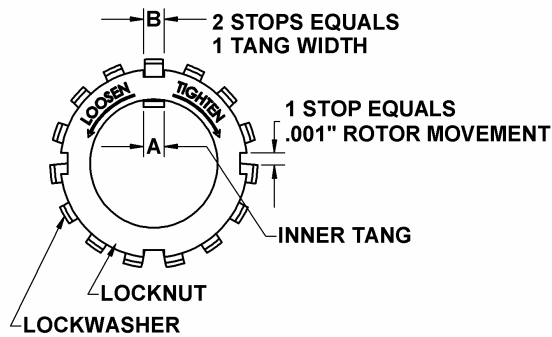

Figure 8 – Locknut Assembly
It is important that the bearing locknuts (24A) and lockwashers (24B) be installed and adjusted properly. Overtightening locknuts can cause bearing failure or a broken lockwasher tang. Loose locknuts will allow the rotor to shift against the discs (71), causing wear. See Figure 8.
- Tighten both locknuts (24B) to ensure that the bearings (24) are bottomed in the head recess. DO NOT overtighten and bend or shear the lockwasher inner tang.
- Tighten the opposite locknut (24A) by hand until it is snug against the bearing (24). Then, using a spanner wrench, tighten the nut the width of one lockwasher tang "B". Tighten just past the desired tang, then back off the nut to align the tang with the locknut slot. Secure the nut by bending the aligned lockwasher tang into the slot in the locknut. The pump should continue to turn freely when rotated by hand.
- Inspect the grease seal (104) for wear or damage and replace as required. Grease the outside diameter of the grease seal and push it into the inboard bearing cover (27) or bracket mount (108) with the lip of the seal inward (towards the pump).
- Attach a new bearing cover gasket (26) and the inboard bearing cover (27) to the inboard head (20). Install the outboard bearing cover (27A) and a new gasket to the outboard head. Make sure the grease fittings (76) on the bearing covers are accessible. Install and torque the bearing cover capscrews (28) to 8 lbs ft (10.8 Nm).
- On flange mounted pumps, the bracket mount takes the place of the inboard bearing cover (27). To attach the bracket mount to the head, install a new bearing cover gasket (26) and the four mounting screws (28A).